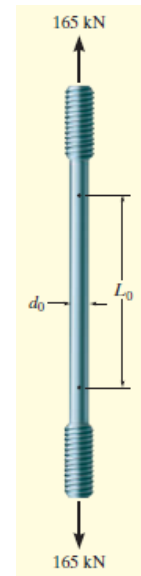

Fig. 8
8. An aluminum specimen shown in Fig. 8 has a diameter of and a gauge length of  $d_0 = 25 \text{ mm}$  and gauge length of  $L_0 = 250 \text{ mm}$ . If a force of 165 kN elongates the gauge length 1.20 mm, determine the modulus of elasticity,  $E$ . Also, determine by how much the force causes the diameter of the specimen to contract.  $G = 26 \text{ GPa}$ , Yield strength,  $\sigma_y = 440 \text{ MPa}$ . [  $E = 70.0 \text{ GPa}$ ; Change in diameter  $\delta' = 0.0416 \text{ mm}$  ]